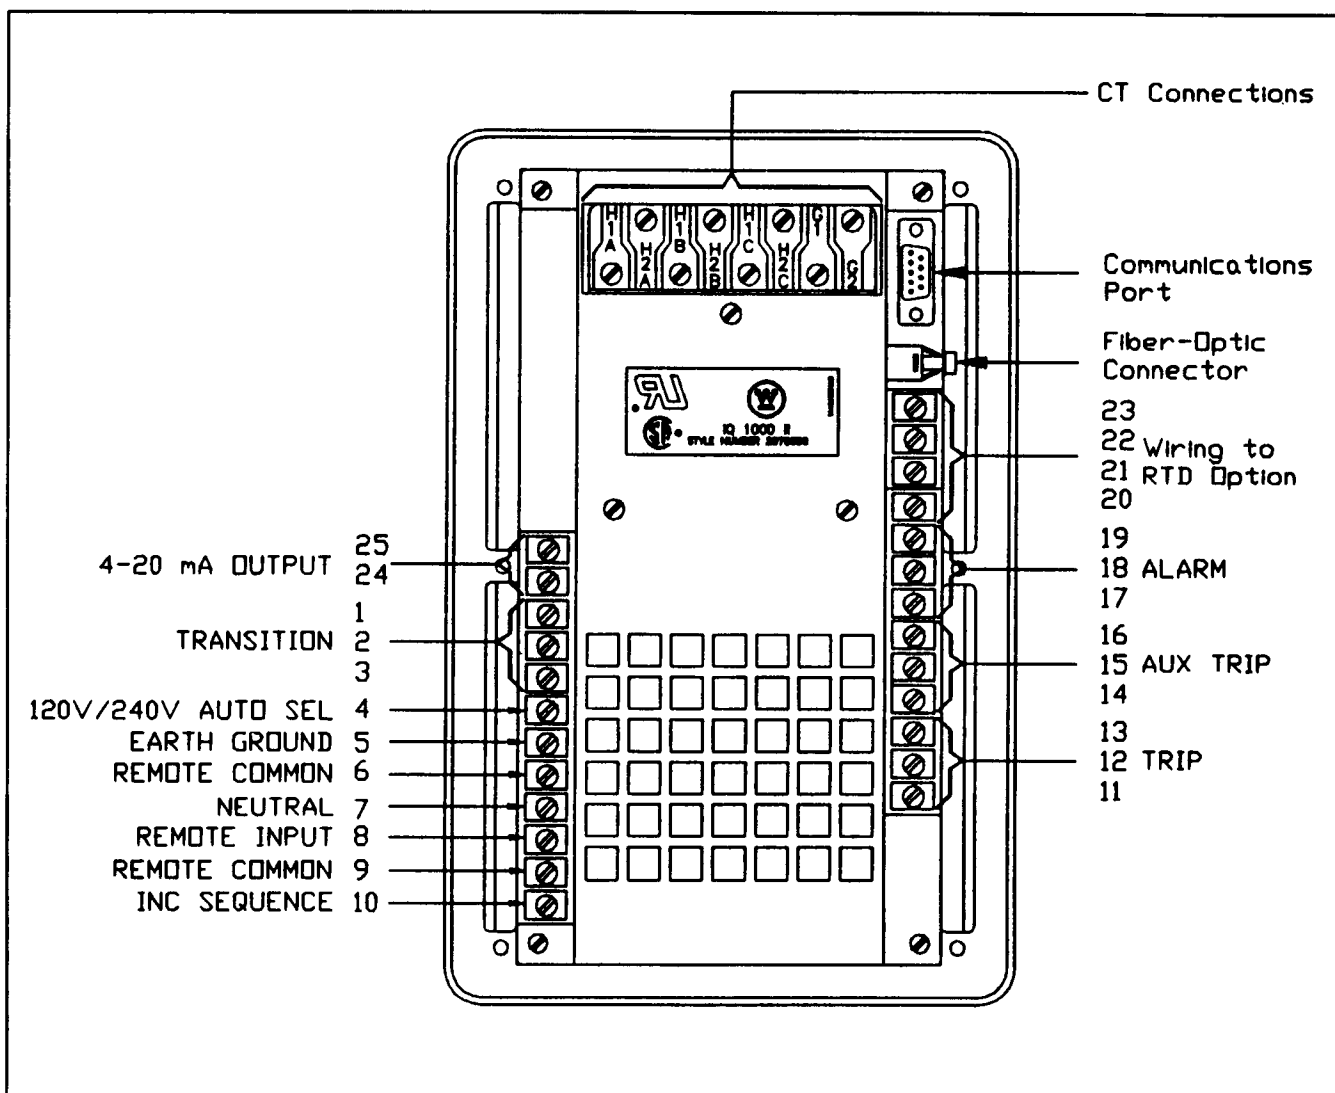

Figure 6.1 — IQ-1000 II Wiring Terminals
**6.2 Initial AC Power Checks** — The following procedures describe the initial items to be performed when power is first applied to the IQ-1000 II. Refer to Figure 6.1 as necessary.